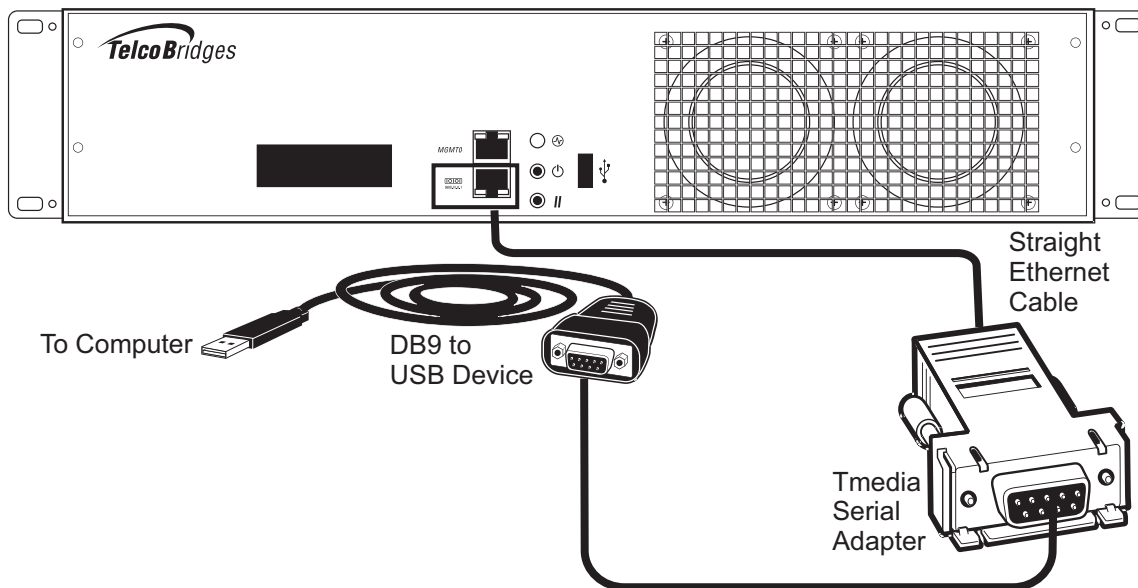

Figure 3.2 Conceptual View of a Serial Connection from the 3200 Series Gateway to a Computer
2. If your computer's serial port features a DB9 connector, use the Tmedia serial adapter supplied with your 3200 series gateway. If your computer's serial port features a USB connector, you will need to provide a USB to DB9 adapter. Refer to figure 3.2 on page 60.